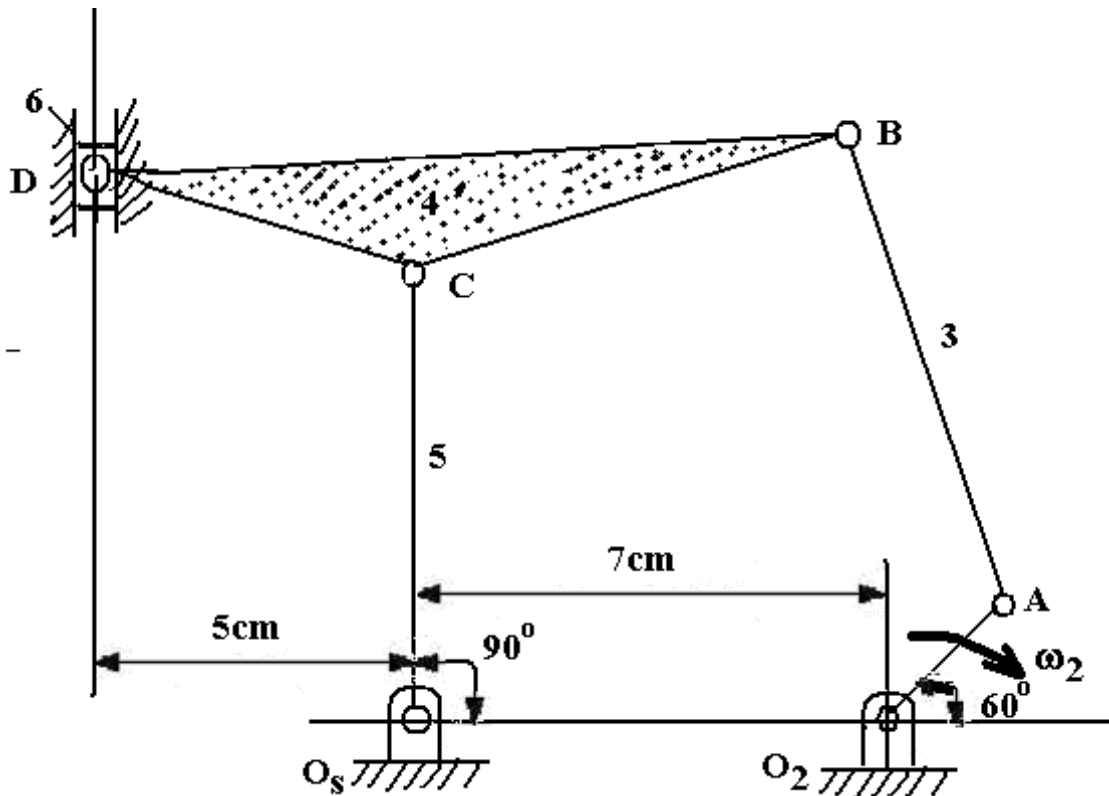

Figure 1
6. A Watt 'walking – beam' mechanism is shown in Figure 1. Determine the velocity and acceleration of the slider if the crank O_2A rotates with a speed of 1 cycle/sec in a clockwise direction. Given $O_2A = 2\text{cm}$, $AB = 8.5\text{ cm}$, $BC=7.5\text{ cm}$, $CD=5.25\text{ cm}$, and $O_5C = 7\text{ cm}$. [16]